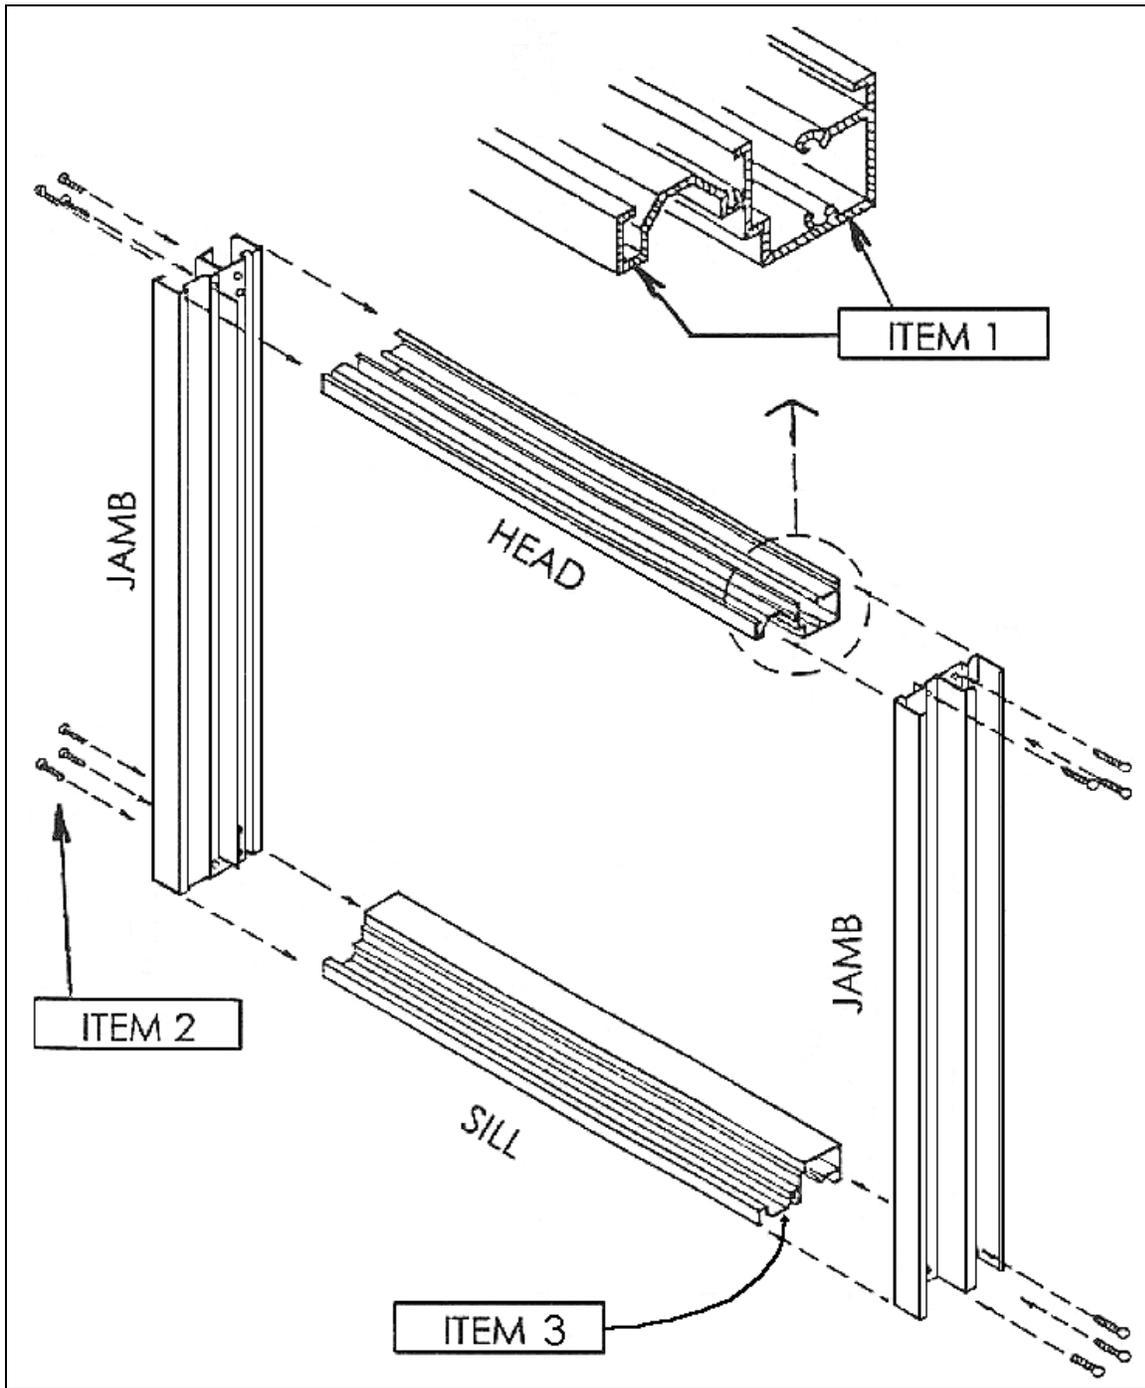
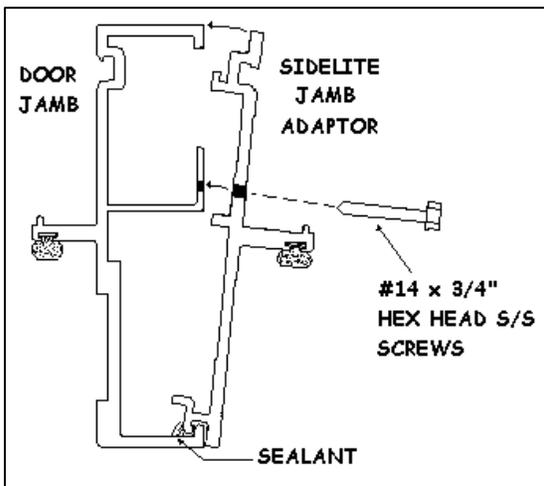

Figure 1: Frame assembly.
Figure 3: Sidelite frame attachment.
6. Tighten all installation screws/anchors and install any missing screws/anchors. Seal all screws/anchors at sill of door. Seal gap at both ends between sill channel (where installation screws sit) and frame jamb (see *item 3* on *figure 1*).
2. Build sidelite frame as shown on *figure 1*. To build frame:
- a. Apply silicone sealant to ends of head and sill members as shown on *item 1*.
- b. Attach head and sill member by inserting #12 x 1 ¼” hex head SMS (supplied) into pre-drilled assembly holes. Use three screws per connection as shown on *item 2*.
8. Tighten all installation screws/anchors and install any missing screws/anchors. Seal all screws/anchors at sill of door. Seal gap at both ends between sill channel (where installation screws sit) and frame jamb (see *item 3* on *figure 1*).
1. Build door frame prior to installing in opening as shown on *figure 1*. To build frame:
- b. Attach head and sill member by inserting #12 x 1 ¼" hex head SMS (supplied) into pre-drilled assembly holes. Use three screws per connection as shown on *item 2*.
3. Attach sidelite frame(s) and door frame as shown on *figure 3*. Apply continuous silicone sealant at exterior joint, attach vertical sidelite adapter jamb to door jamb and secure using # 14 x ¾” hex head S/S TEK screws as shown.
- At door sill extrusion between sill and jambs (see Item 1 at Figure 1, page 10)
- At ends of Sill gutter, where it meets the jamb (see Item 3 at Figure 1, page 10)
- To heads of all sill installation fasteners . Also make sure that door is closing properly, and that the weatherstripping is making good contact (refer to items 3 & 6 below).